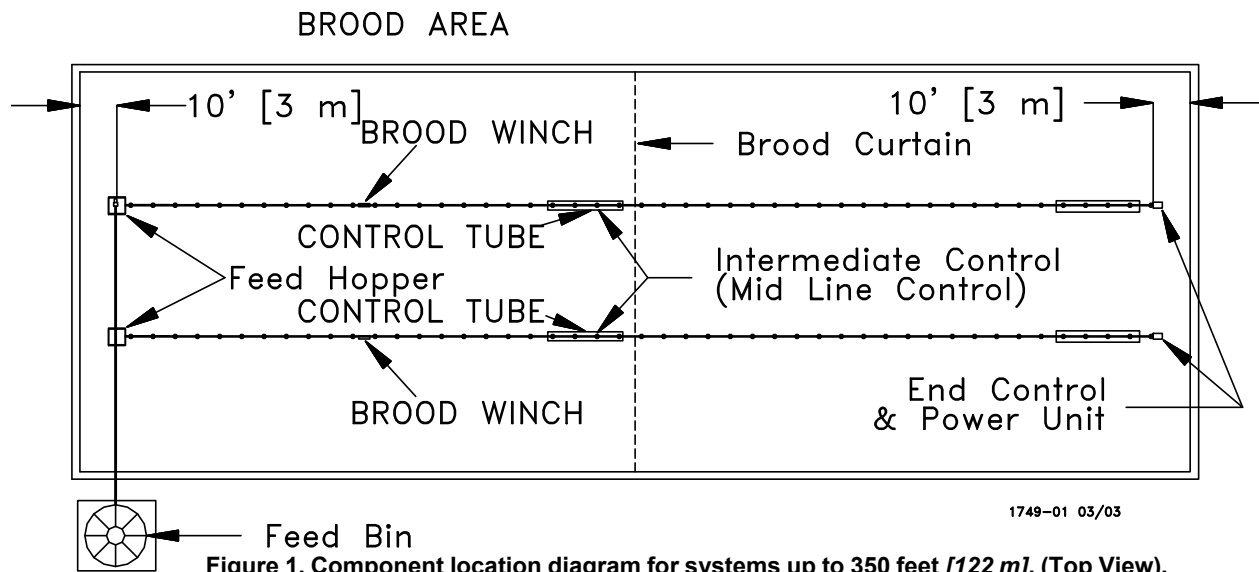

Figure 1. Component location diagram for systems up to 350 feet [122 m]. (Top View).
A. Optional Mid Line Controls may be used for partial house brooding. See Figure 1..